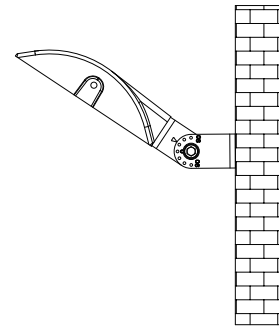

figure 2.5
Step 3: Loosen the screws, adjust the lamp angles as per actual demands and then tighten the screws; (figure 2.5)